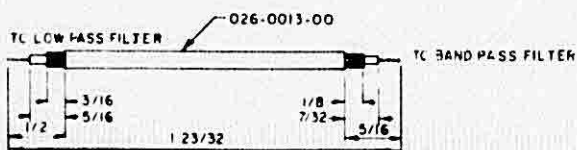

FIGURE 6-11c 1030MHz DUPLEXER CABLE
- d) Check the mixer L. O. injection voltage to be a minimum of 0.2 volts at TP501 (A-4). If the injection voltage is low, refer to the alignment procedure, 6.5.2 steps 10-11 and check the mixer diode as directed in 6.5.3. The 1030MHz band-pass filter is aligned by the procedure outlined in 6.4.3, while the 1030MHz duplex-er cable dimensions are shown in Figure 6-11C.